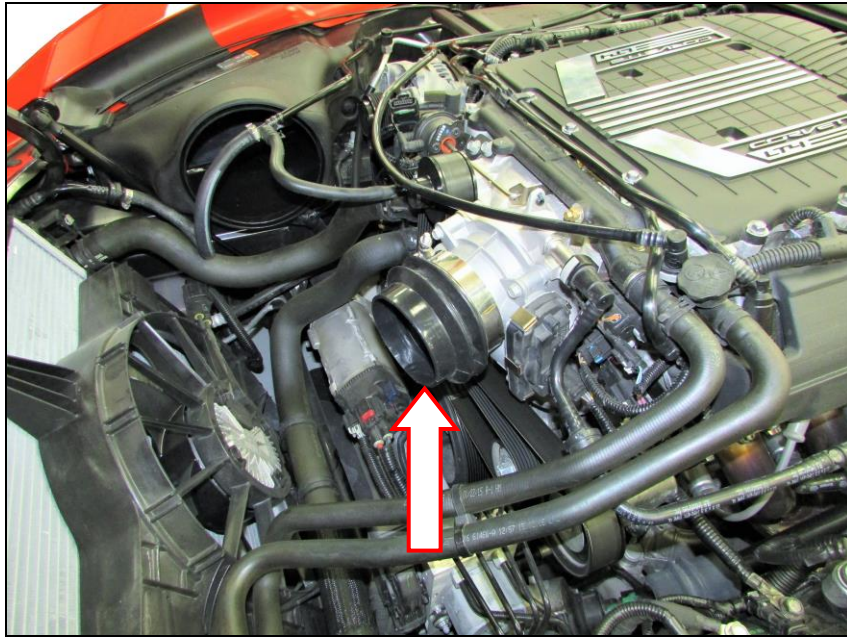

Figure 8
14. Install the supplied silicone coupling and (x1) T-bolt clamp to the throttle body. Tighten the clamp (**Figure 8**).